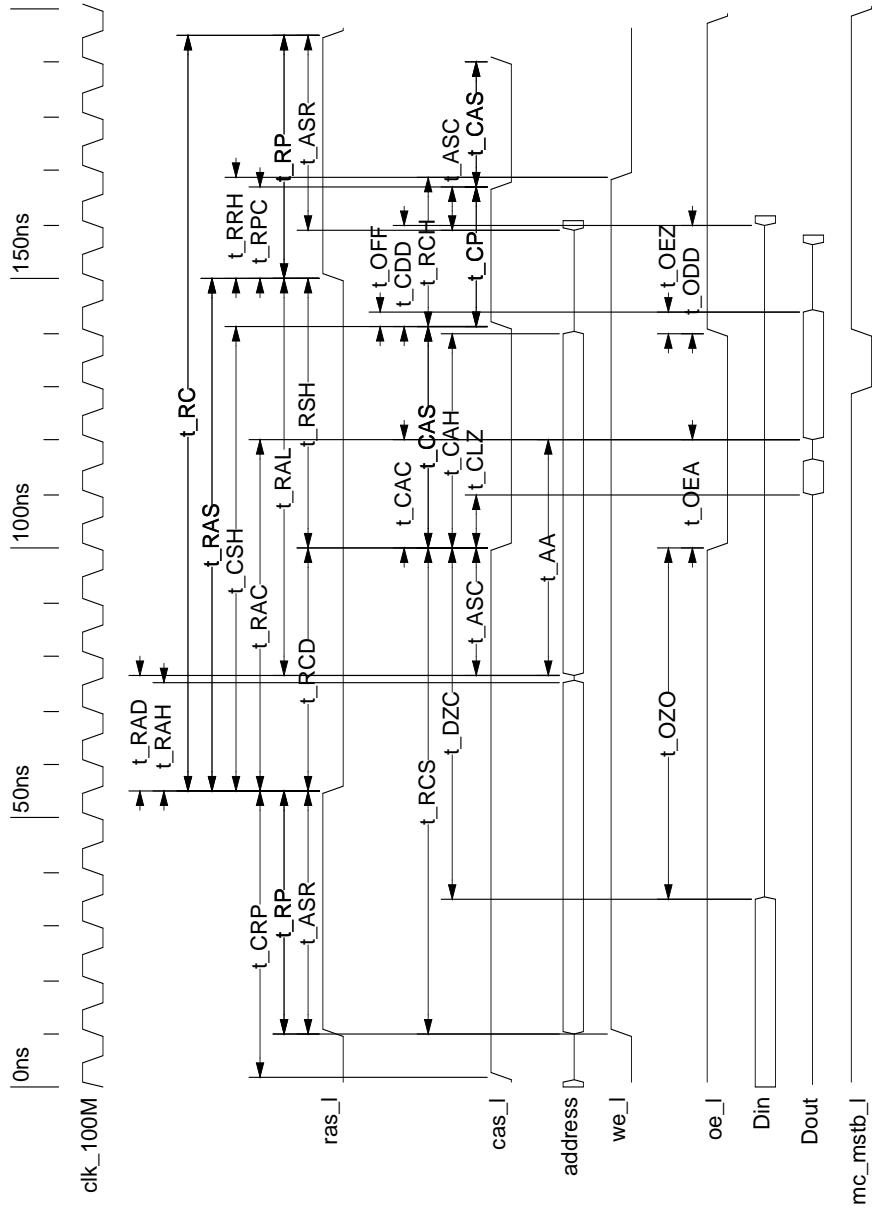
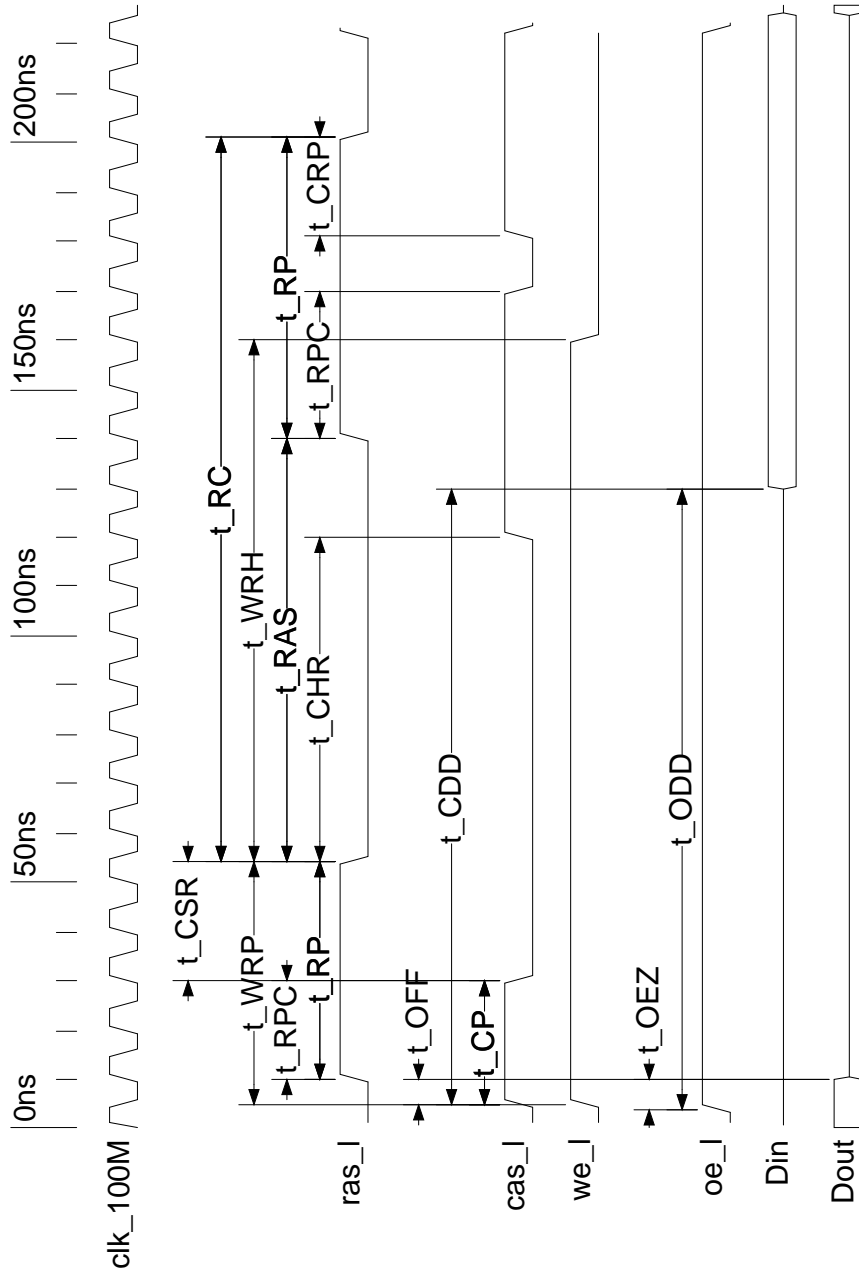

Figure 4. DRAM Read Cycle (100 MHz Clock)
Figure 13. DRAM RAS-Before-CAS Refresh Cycle (100 MHz Clock)
1. The timing diagrams in Figure 4 through Figure 13 reflect a SP_SEL[2:0] of 010 for 100 MHz operation.